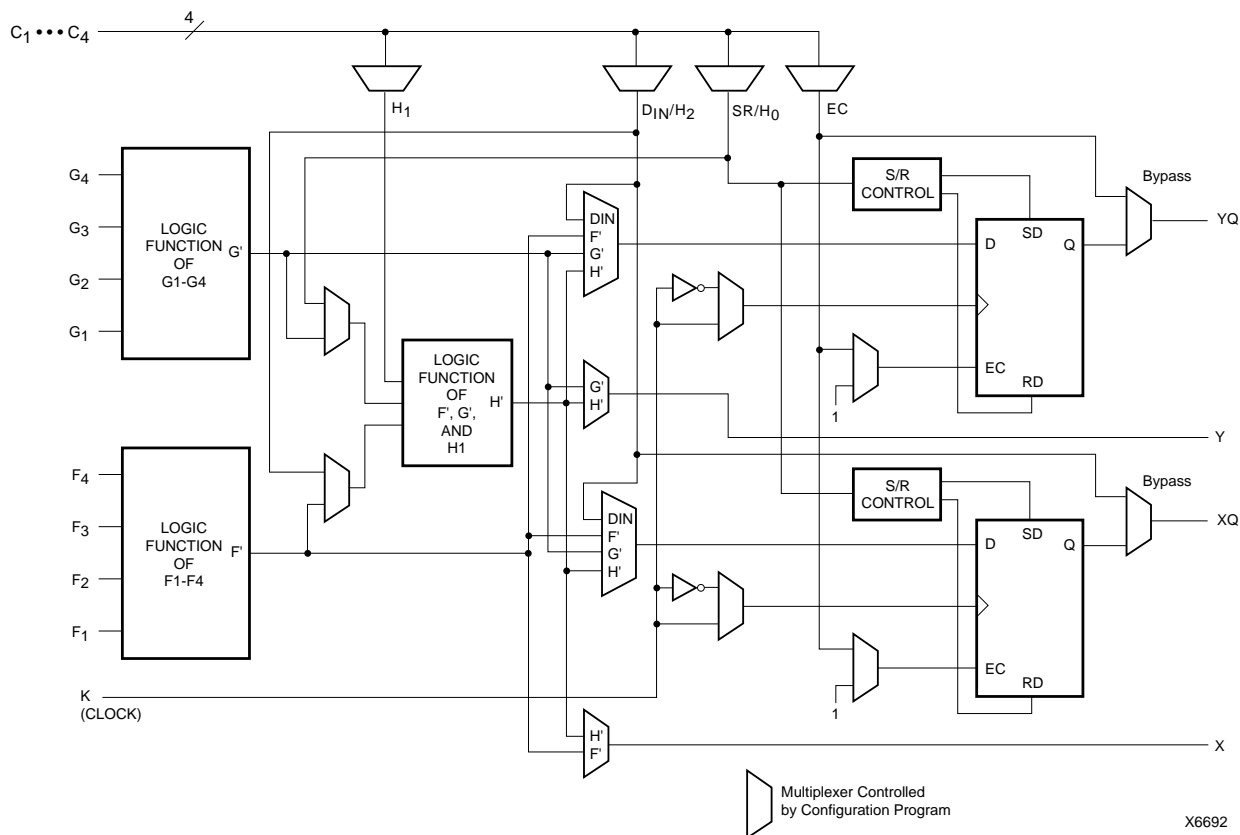

Figure 1: Simplified Block Diagram of XC4000 Series CLB (RAM and Carry Logic functions not shown)
Configurable Logic Blocks implement most of the logic in an FPGA. The principal CLB elements are shown in **Figure 1**. Two 4-input function generators (F and G) offer unrestricted versatility. Most combinatorial logic functions need four or fewer inputs. However, a third function generator (H) is provided. The H function generator has three inputs. Either zero, one, or two of these inputs can be the outputs of F and G; the other input(s) are from outside the CLB. The CLB can, therefore, implement certain functions of up to nine variables, like parity check or expandable-identity comparison of two sets of four inputs.